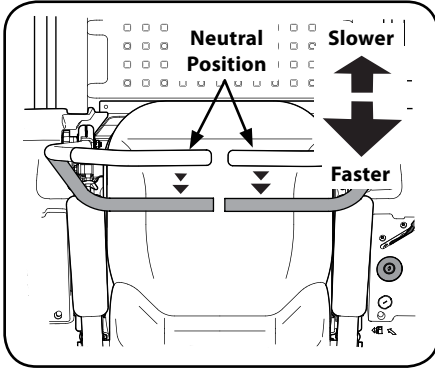

Figure 3-5
1. Slowly and evenly move both drive control levers rearward. The tractor will start to move in the reverse direction. See Figure 3-5.